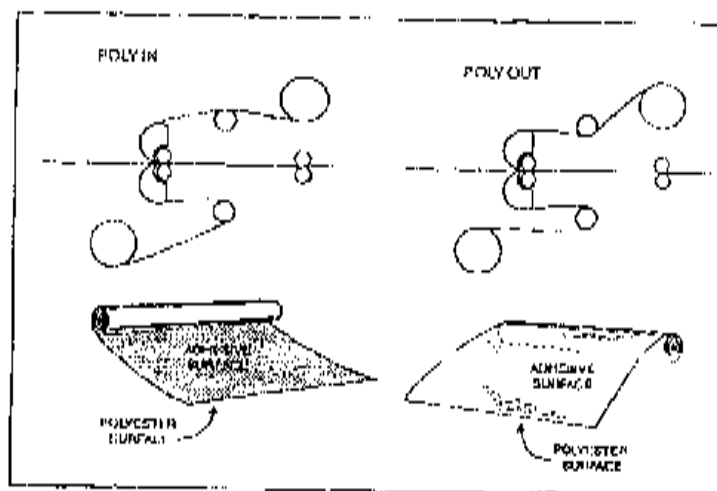

Fig. 8
Refer to Figure 8 for illustrations of properly loaded film. The Discovery Series Laminator uses Poly-In and Poly-Out films. Poly-In means the adhesive side of the film is on the inside of the roll (Figure 8). Poly-Out means the adhesive side is rolled on the outside of the roll. The shiny side of clear film must contact the heat shoes with the dull side (adhesive side) facing out. Use extreme caution when loading delustrad (matte) film as both sides appear dull.
The following procedure uses a film threading card. It is recommended the laminator be cool to the touch before proceeding, however you may perform this procedure when the unit is hot. Refer to Figure 8 for the proper threading diagrams for Poly-In and Poly-Out films.
9. Unroll 2 ft. (61 cm) of film. Push the leading edge under and around bottom idler bar. Slide the idler bar back into place and install the bottom film supply shaft by inserting the right end of the shaft into the brake hub and the lateral adjuster into its cradle. The roll pins of the adjuster must face out. Drape the film over the bottom roll of film. (Figure 8).
10. Remove the top film supply roll from laminator. Repeat steps 6, 7 and 8 from above, refer to Figure 8 for proper loading of film.
11. Unroll 2 ft. (61 cm) of film. Drape the film over the top and bottom heat shoes. (Figure 8).